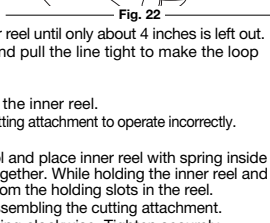

Fig. 23
1. After removing the inner reel, place the SpeedLock™ onto the shaft, making sure to align the arrows with the eyelets on the outer spool (Fig. 23).
2. Place the spring over the shaft and into the recess in the SpeedLock™ Spool (Fig. 23).
3. While holding the outer spool in place, insert the bolt located in the Bump Knob™ through the end of the spring and into the end of the shaft (Fig. 23).
4. While slightly compressing the spring, screw the Bump Knob™ clockwise into the shaft (Fig. 23). Tighten Securely.